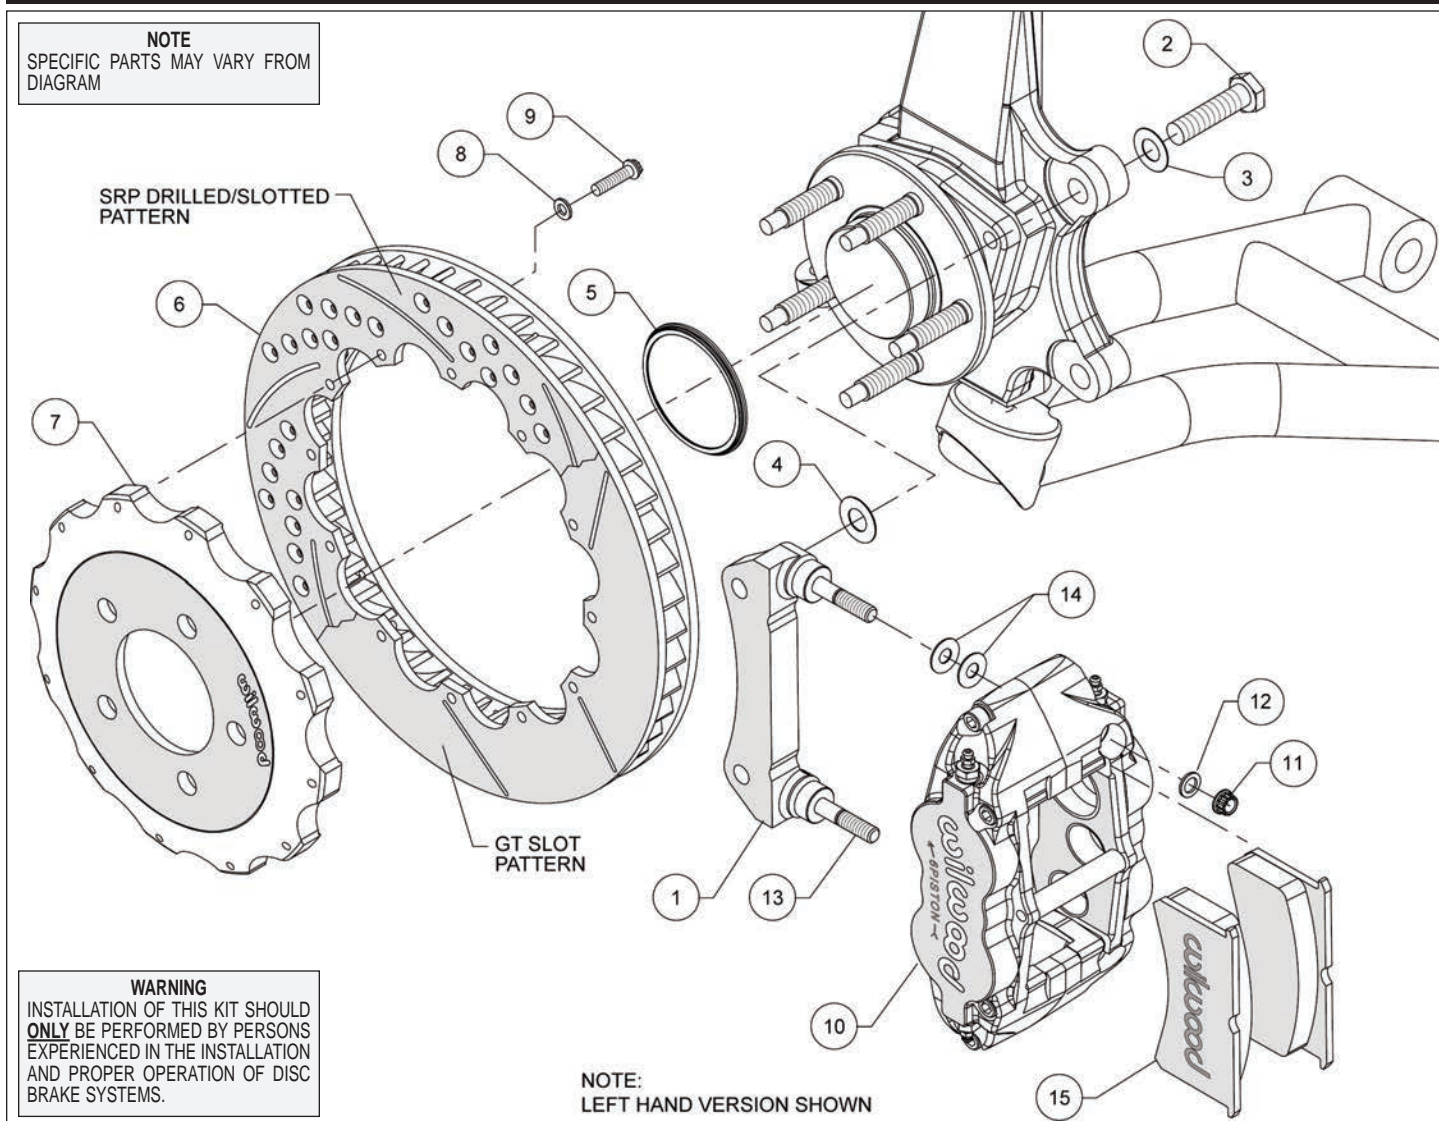
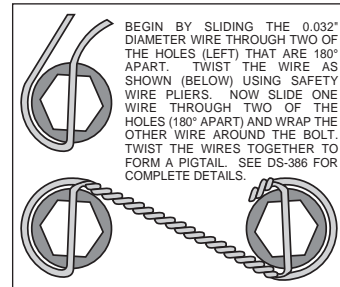

Figure 1. Typical Installation Configuration
Figure 3. Safety Wire Diagram
Assembly Instructions (numbers in parenthesis refer to the parts list and Figure 1 on the preceding pages):
- The caliper mount bracket (1) should initially be installed with clean, dry threads on the mounting bolts. Orient the bracket as shown in Figure 1, and install using bolts (2) and washers (3). Initially place one .033 thick shim (4) on each bolt between the bracket and upright, Figure 1. Temporarily tighten the mounting bolts. **NOTE:** *The bracket must fit squarely against the mount bosses on the upright.* Inspect for interference from casting irregularities, machining ridges, burrs, etc. Later, after the caliper alignment has been checked, the mount bolts will be secured using red *Loctite*[®] 271.
- Orient the rotor (6) and the hat (7) as shown in Figure 1 and Photo 1. Attach rotor to hat using bolts (9) and washers (8). Using an alternating sequence, apply red *Loctite*[®] 271 to the threads, and torque to 155 **in-lbs**. For an added measure of security, the bolts may be safety wired using standard 0.032 inch diameter stainless steel safety wire as shown in Figure 3. Please refer to Wilwood's data sheet DS-386 (available at www.wilwood.com/Pdf/DataSheets/ds386.pdf) for complete safety wire installation instructions.
- Slide the rotor registration adapter (5) onto the axle register on the hub assembly with the smaller O.D. facing outward, Photo 2. Slide the hat/rotor assembly (6/7) onto the hub assembly. **NOTE:** *The hat must fit flush against the hub flange or excessive rotor run out may result.* Install three lug nuts (finger tight) to keep the hat/rotor assembly in place while continuing with the installation.
- NOTE:** *This kit contains distinct right and left hand calipers that must be mounted in a specific direction, as described below.* Lubricate the caliper mounting studs (13) with lightweight oil. Initially place two .035" thick shims (14) on each stud as shown in Figure 1 and Photo 3. Mount the caliper (10) onto the bracket (1) using lock nuts (11) and washers (12), Figure 1. Ensure that the caliper is mounted so that the largest pistons are at the rotor exit end of the caliper, in relation to the direction of rotor rotation. Temporarily tighten the lock nuts and view the rotor through the top opening of the caliper. The rotor should be centered in the caliper, Photo 4. If not, adjust by adding or subtracting shims (4) between the bracket and the upright. Always use the same amount of shims on each of the two mounting bolts. Once the caliper alignment is correct, remove the bracket mounting bolts (2) one at a time, apply red *Loctite*[®] 271 to the threads, and torque to 77 ft-lb.